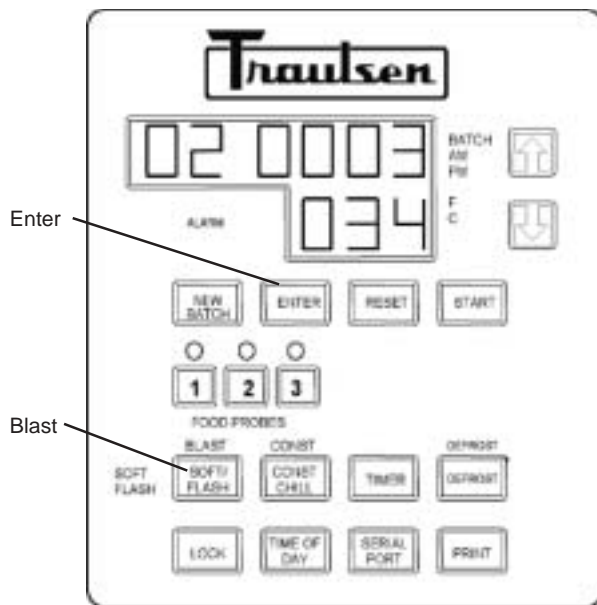

Fig. 31
STEP 3: Notice that the word **BLAST** is flashing directly above the **SOFT/FLASH** button. If you wish to blast chill product, press **ENTER**. If a soft chill is preferred, press the **SOFT/FLASH** button once, and then press **ENTER**. If a flash chill is required, press the **SOFT/FLASH** button twice, and then press **ENTER**. **NOTE:** Whichever chill cycle mode is selected, there will be a light illuminated "stating" the mode that has been chosen. This will be the mode in which the unit will run (see figure 31).